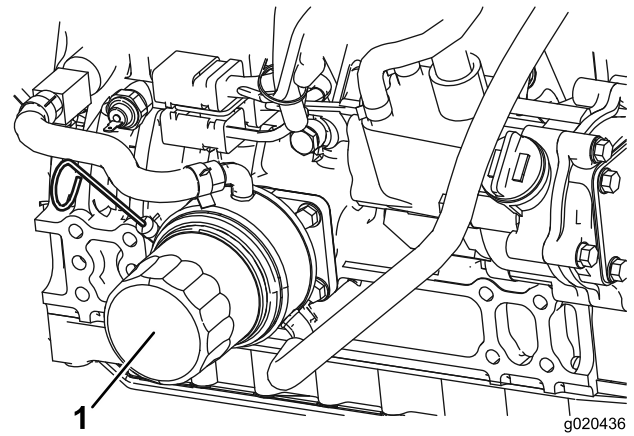

Figure 36
2. Remove the oil filter (Figure 36).